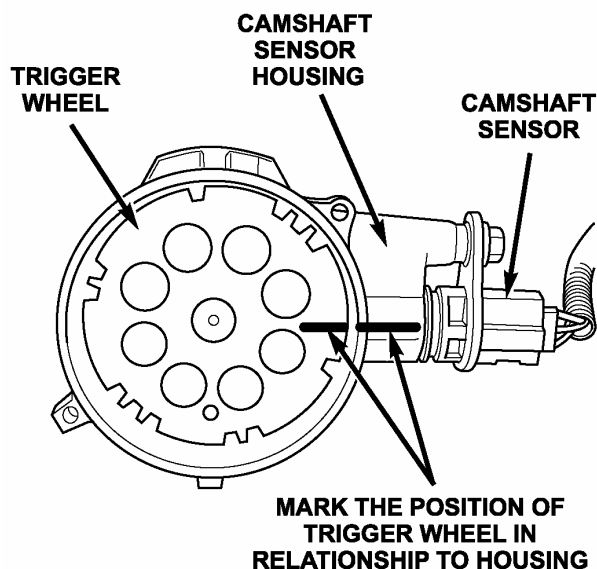

Figure 2
2. Note and mark the position of trigger wheel in relationship to housing (Figure 2).
18. Install oil pump drive assembly. Locate the target wheel in the same position as marked in Step 2 and be sure to align the shaft into oil pump slot (Figure 2).